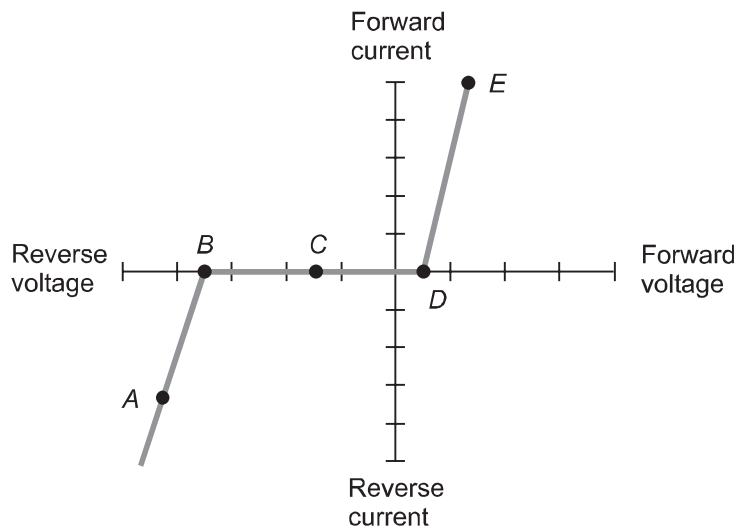

Fig. Test2-3. Illustration for Part Two Test Questions 25 through 29.
25. What does Fig. Test2-3 most likely represent?
26. Which of the points in Fig. Test2-3 represents the forward breakover point?
27. Which of the points in Fig. Test2-3 show a condition of reverse bias?
28. In the situation of Fig. Test2-3, at which point(s) does the device fail to conduct?
29. Which of the points in Fig. Test2-3 represents conduction as a result of normal, normal effect?